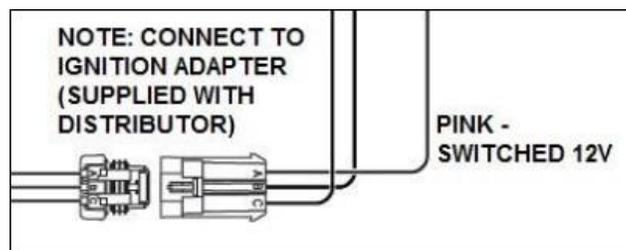

Figure 5
- Now, plug the 3 pin distributor connector into the 3 pin connector on the provided wiring harness (**Figure 5**).